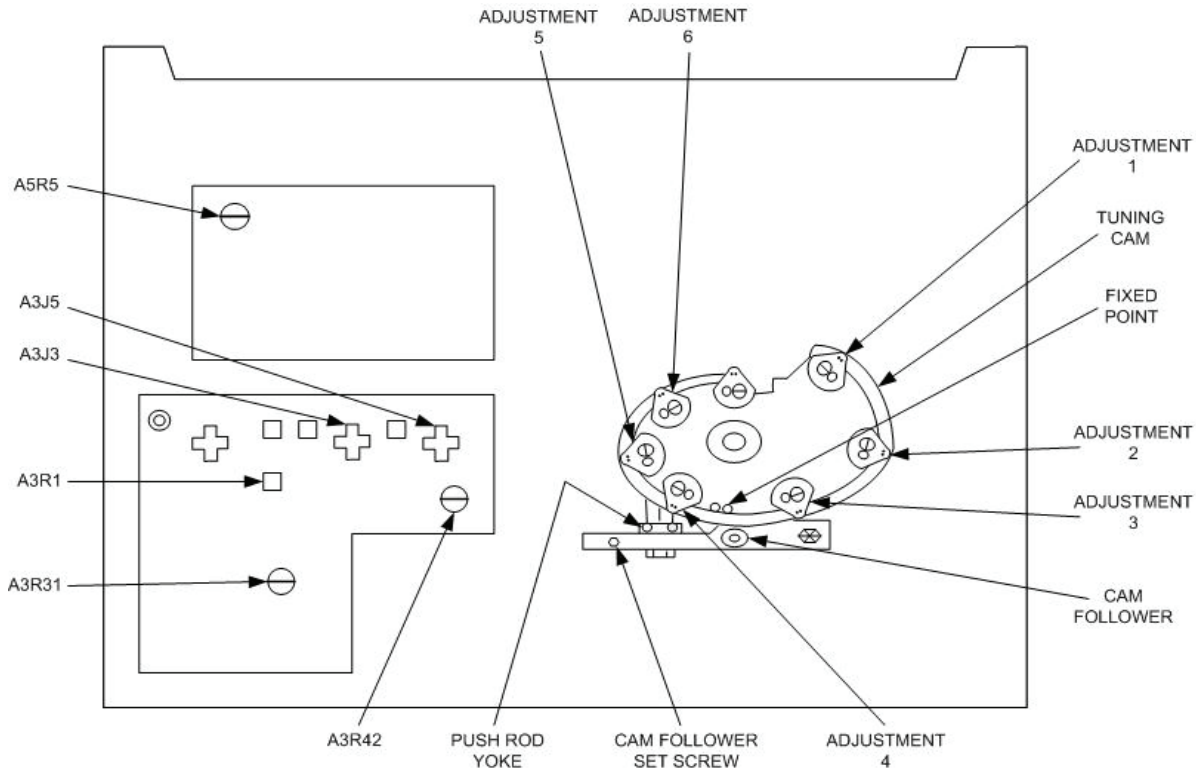

Figure 1. Signal generator - top view.
(1) Adjust **FREQUENCY GHz** control to position the CAM FOLLOWER at fixed point on TUNING CAM (fig. 1). Readjust **FREQUENCY GHz** dial to nearest cardinal point (approximately 9 GHz).
(2) If frequency counter indication is not within ± 1 percent of **FREQUENCY GHz** dial indication, loosen CAM FOLLOWER SET SCREW (fig. 1) and adjust pushrod yoke in or out as needed until frequency counter indication is the same as **FREQUENCY GHz** dial setting (R).
(3) Tighten CAM FOLLOWER SET SCREW and observe that frequency counter indication remains within ± 1 percent of **FREQUENCY GHz** dial setting.
(4) Loosen four hex nuts on underside of TUNING CAM for ADJUSTMENTS 4, 5, and 6 (fig. 1).
(5) Adjust **FREQUENCY GHz** control to position the eccentric ADJUSTMENT 4 (fig. 1) opposite the CAM FOLLOWER. Note **FREQUENCY GHz** dial indication; readjust **FREQUENCY GHz** dial to nearest cardinal point. Adjust hex nut 4 until frequency counter indication is same as test instrument **FREQUENCY GHz** dial indication. Hold hex nut 4 with a wrench and tighten nut on underside of tuning cam with another wrench while observing that frequency counter indication remains within ± 1 percent of **FREQUENCY GHz** dial setting (R).
(6) Repeat (5) above for cam ADJUSTMENT 5 and 6 (fig. 1).
(7) Loosen three nuts on underside of cam for ADJUSTMENTS 3, 2, and 1 (fig. 1).
(8) Adjust **FREQUENCY GHz** control to position eccentric ADJUSTMENT 3 (fig. 1) opposite the CAM FOLLOWER. Note **FREQUENCY GHz** dial indication; readjust **FREQUENCY GHz** dial to nearest cardinal point. Adjust hex nut 3 until frequency counter is same as **FREQUENCY GHz** dial indication. Hold nut 3 with a wrench and tighten nut on underside of TUNING CAM with another wrench while observing that frequency counter indication remains within ± 1 percent of **FREQUENCY GHz** dial setting (R).
(9) Repeat (8) above for cam ADJUSTMENTS 1 and 2 (fig. 1).
(10) Repeat a (1) through (9) above.
- (1) Configure measuring receiver to measure power in the linear mode.
- (2) Adjust **ATTENUATOR** and **POWER SET** controls for 1 mW indication on measuring receiver with 0 dBm indication on **-DBM/MICROVOLTS** dial.
- (3) Adjust A3R31 (fig. 1) until TI power monitor meter indicates **CAL (R)**.
(2) Connect multimeter between chassis ground and pin 2 of A3J3 (fig. 1), using high-voltage probe. If multimeter does not indicate between -1237.5 and -1262.5 V dc, perform **b** (2) below.
(3) Press **CW** pushbutton and turn **Δ F** control fully cw.